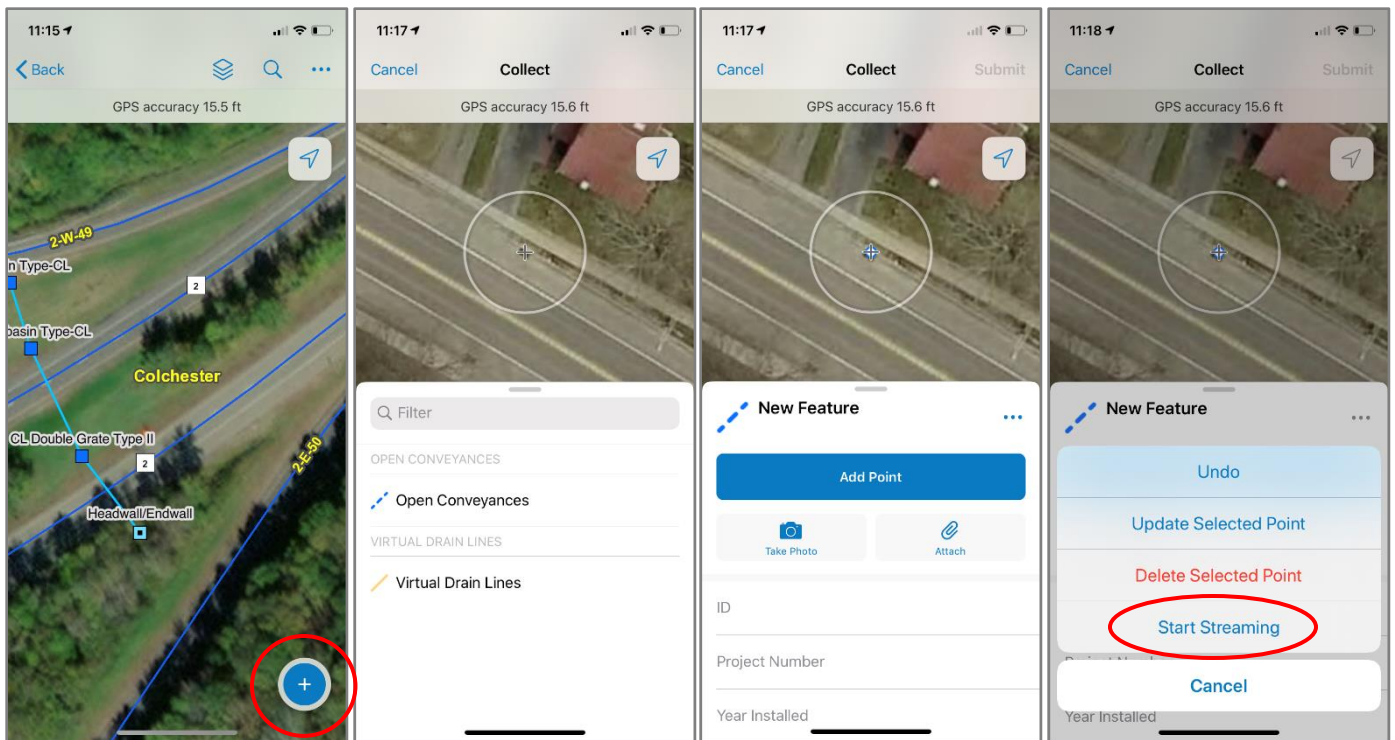

Figure 42. Adding a new feature in the ArcCollector app.
2. Click on the blue plus “+” sign and select the feature you’d like to add from the list that pops up (Figure 42, below).